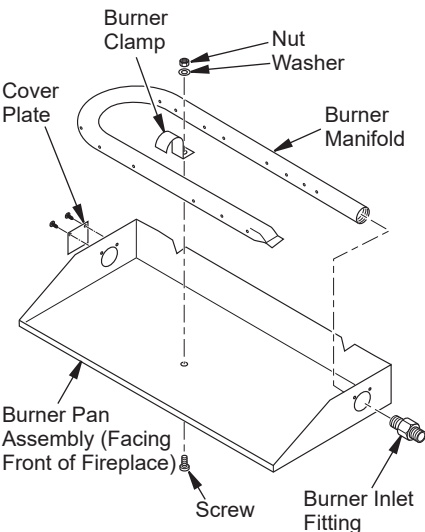

Figure 4 - Installing Burner Pan
(See *Figure 4*) Proceed to step 8.
2. Using a screwdriver, remove cover plate on left side of burner pan (See *Figure 4*).
3. Unscrew burner inlet fitting from burner manifold (See *Figure 4*).
8. Install Adapter Fitting onto the burner inlet fitting using thread sealant on male threads of burner inlet fitting (See *Figure 4*).